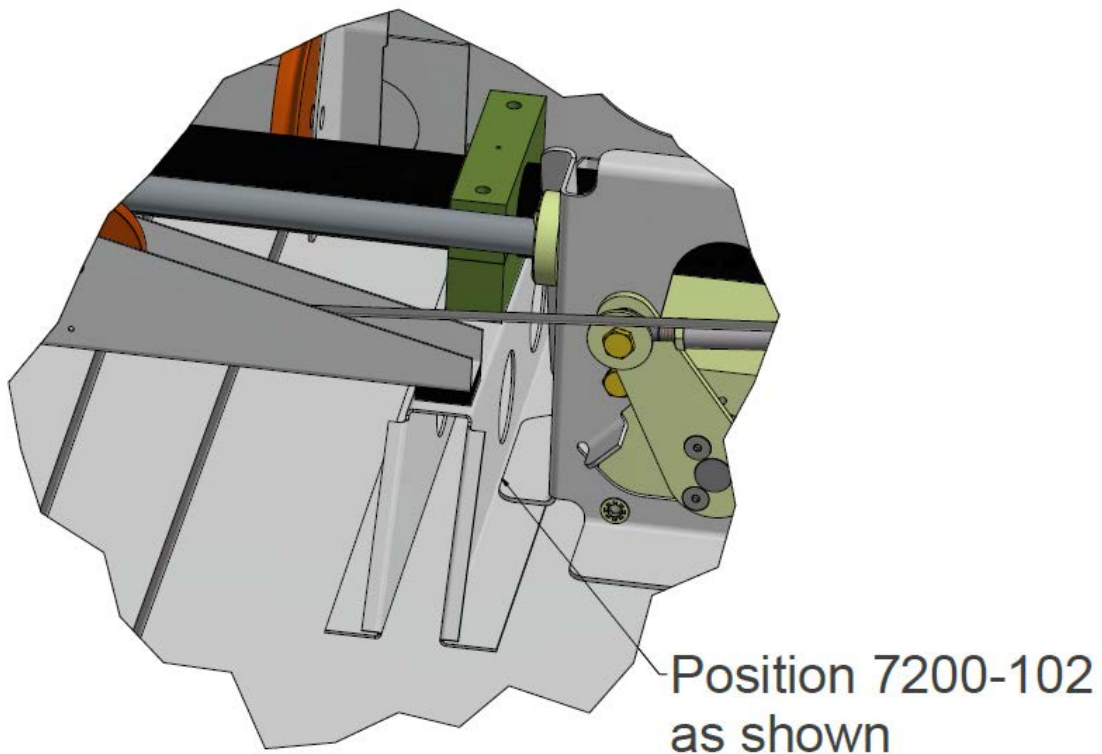

Figure 2-6
- 1.9. Position the roll bracket assembly so that the inboard flange is just outside of the bend of the flap tube support bracket as shown in Figure 2-6. This will establish the lateral positioning of both the pitch and roll servos.